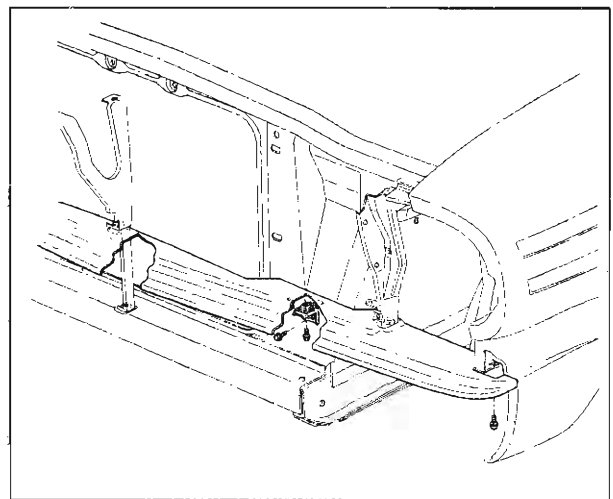

Fig. 28—Bumper Filler Panel
**COMPONENT PART REPLACEMENT****BUMPER FILLER PANEL (FIG. 28)****Removal**